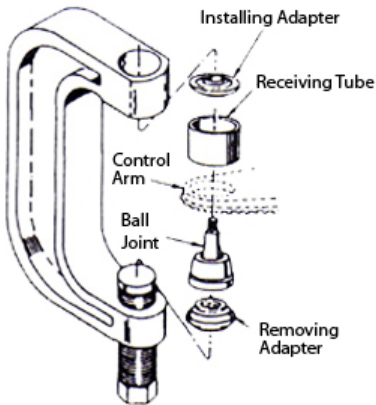

FIGURE 2
3. Assemble the ball joint press components as shown in Figure 2. Position the receiving tube, and tighten the forcing screw. Check the alignment of all tooling and components, and continue tightening the forcing screw until the ball joint is firmly seated.